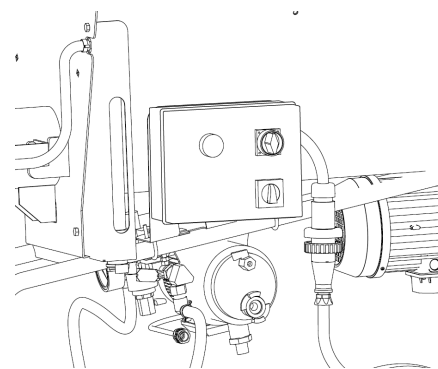

FIG. 5
**10.1 ELECTRICAL CONNECTION (see fig.5)**
Before connecting the mixer to the electrical mains, ensure that all safety devices are fitted and are in perfect condition, and check in particular that the hopper grid is secured in place, that the extension is in good condition and that the plugs and sockets are not wet. Connect the mixer socket on the electrical panel to the mains (fig.5).